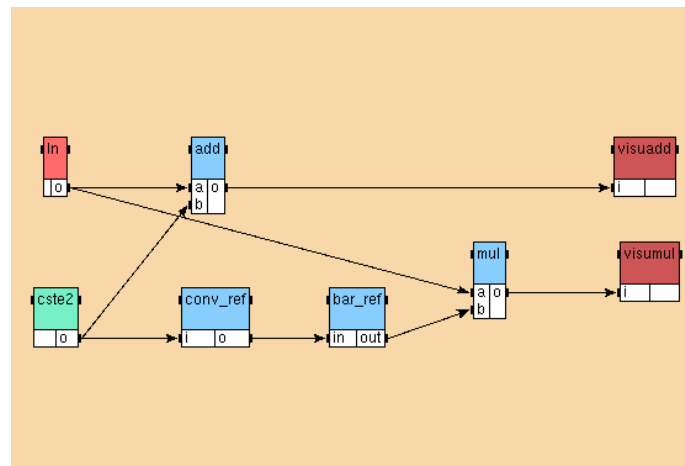

Figure 7.1: Main algorithm after adding 'bar_ref'
- in the `algo2` definition window: first delete the `conv_ref_bis` reference, then create a reference `bar_ref` box to the definition `bar`, finally create the missing dependences. The main algorithm should look like the figure 7.1.